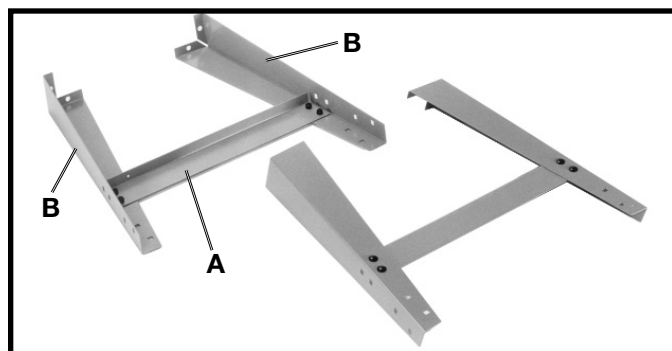

Fig. 6
1. Assemble the longer bottom bracket (A) Fig. 6, to the inside of two table legs (B) as shown. Align the holes in the longer bottom bracket (A) Fig. 6, with the holes in the table legs (B). Insert a 5/16-18x5/8" carriage bolt through the holes in the leg (B) and the hole in the longer bottom bracket (B). Place a 5/16" flat washer, then a 5/16" lockwasher on the carriage bolt, and fasten with a 5/16-18 hex nut. **NOTE:** Only finger tighten stand mounting hardware at this time. Repeat this process for the three remaining holes in the larger bottom bracket.
2. Assemble the other stand bracket (A) Fig. 6, to the remaining two table legs (B) in the same manner.